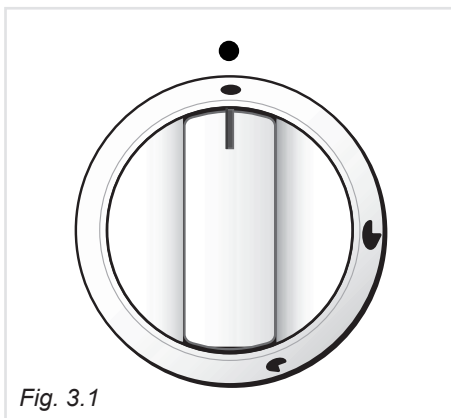
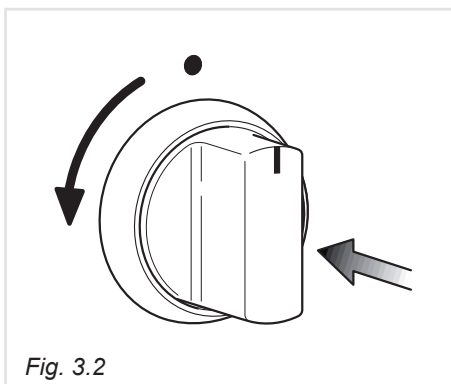

Fig. 3.1
Fig. 3.2
Each burner is controlled by a gas tap (fig. 3.1) assuring the opening and the closing of the gas supply.
- 1. Press in the corresponding knob and turn counter-clockwise (fig. 3.2) to the full flame position marked by the  (full on) symbol (fig. 3.1).